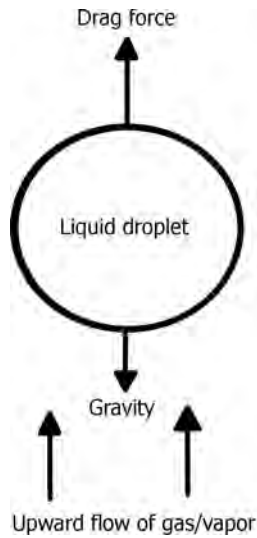

FIGURE 16.34 Forces acting on a liquid droplet suspended in a gas stream.
- Liquid droplets will settle out of a gas phase if the gravitational force acting on the droplet is greater than the drag force of the gas flowing around the droplet, as illustrated in Figure 16.34.